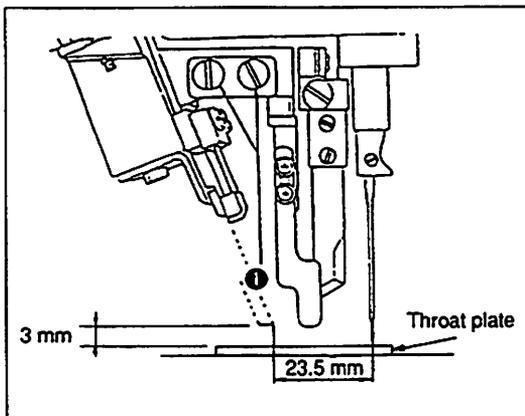

Fig. 89
Adjust the sharpness of the bobbin thread knife, while properly pressing thread grasping presser spring ④ (Fig. 89) against the bobbin thread knife. The force with which the spring is pressed against the knife should be minimized as far as the knife cuts the thread without fail. This helps lengthen the life of the knife.
(12) Position of the synchronizer